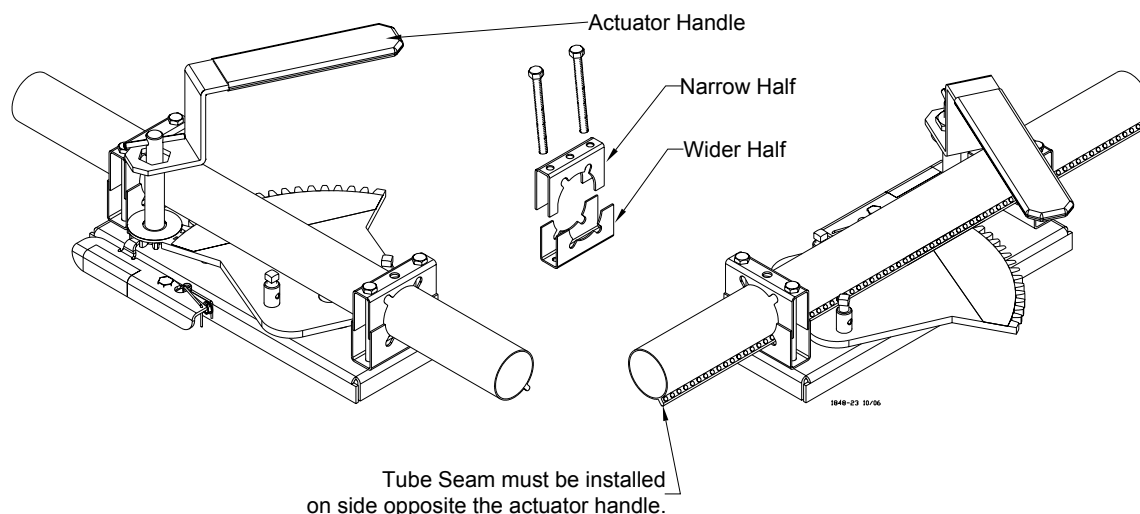

Figure 36. ACCU-CLICK™ Actuator installation
**When Installing the Actuator the Tube Seam must be on the side opposite the Actuator Handle,** see figure 36. It may be necessary to use a tube closure kit if the actuator is to be placed near a feed outlet hole on the tube.